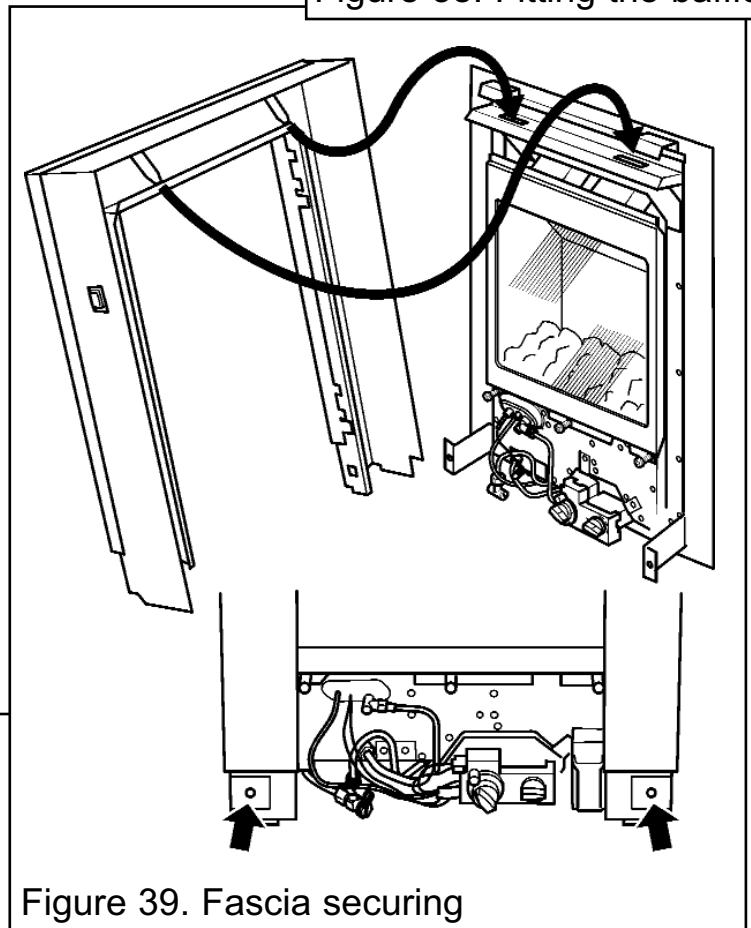

Figure 39. Fascia securing
- Locate the two lugs at the top of the fascia in the slots in the convection box hood. Swing the bottom of the fascia sides back against the convection box and lower the fascia so that the lugs are fully seated in the slots in the convection box hood (See figure 39).
- Secure the bottom of the fascia sides to the convection box side brackets using the two screws removed previously (See figure 39).